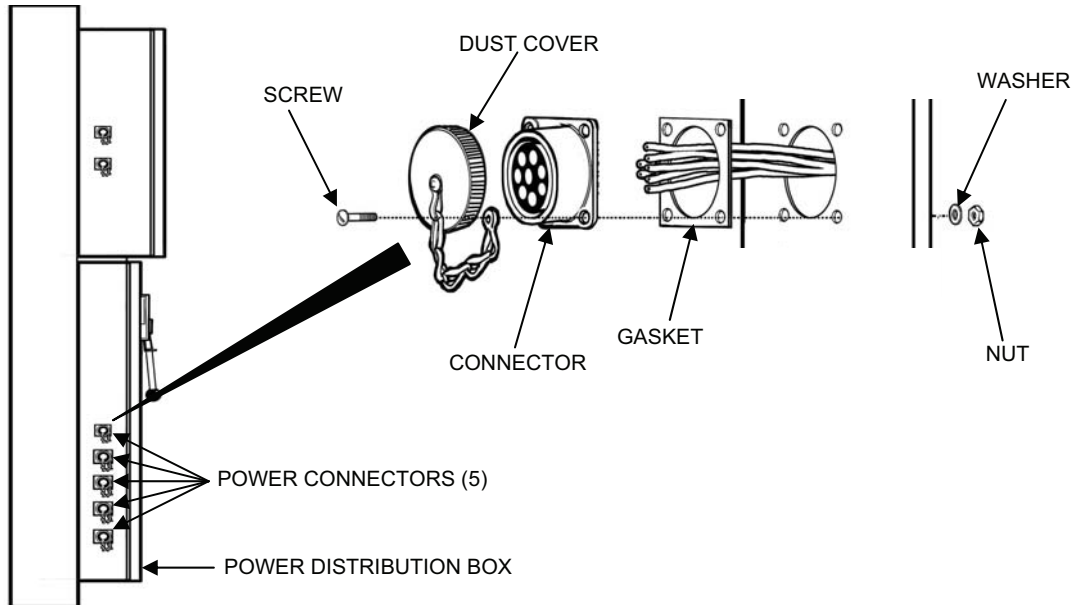

Figure 13. Power Connector Replacement
1. Remove a power connector from the power distribution box as follows (see Figure 13)